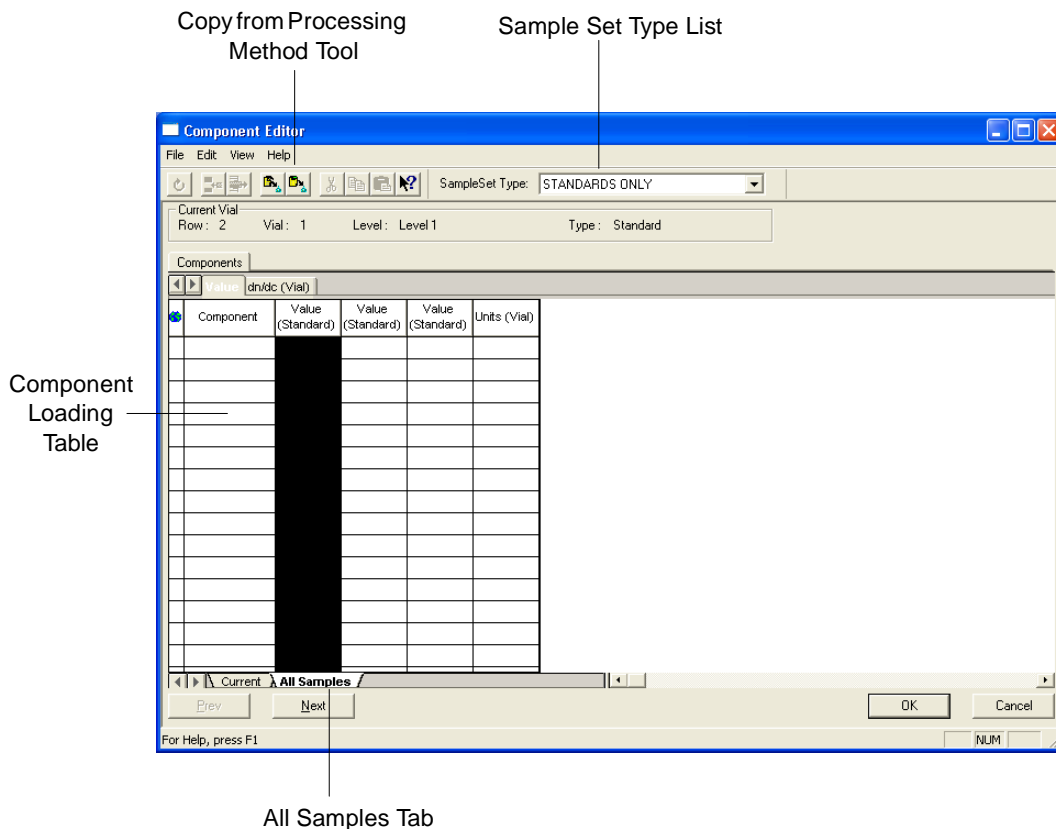

Figure 5-11 Component Editor, All Samples Tab
11. The Summary page lists all options chosen in the preceding pages. Note the check box that automatically opens the Component Editor is selected. Click **Finish** to save the sample set. The Component Editor appears (Figure 5-11). To continue with the tutorial, skip to Section 5.2, Entering Component Information step 2.
1. Select **File > Amounts**. The Component Editor appears (Figure 5-11).